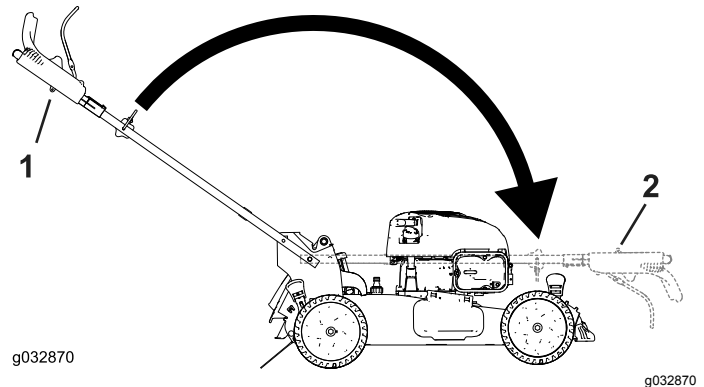

Figure 24
1. Handle knob (2)
2. Carriage bolt (2)
3. Fold the handle by rotating it forward (Figure 24).